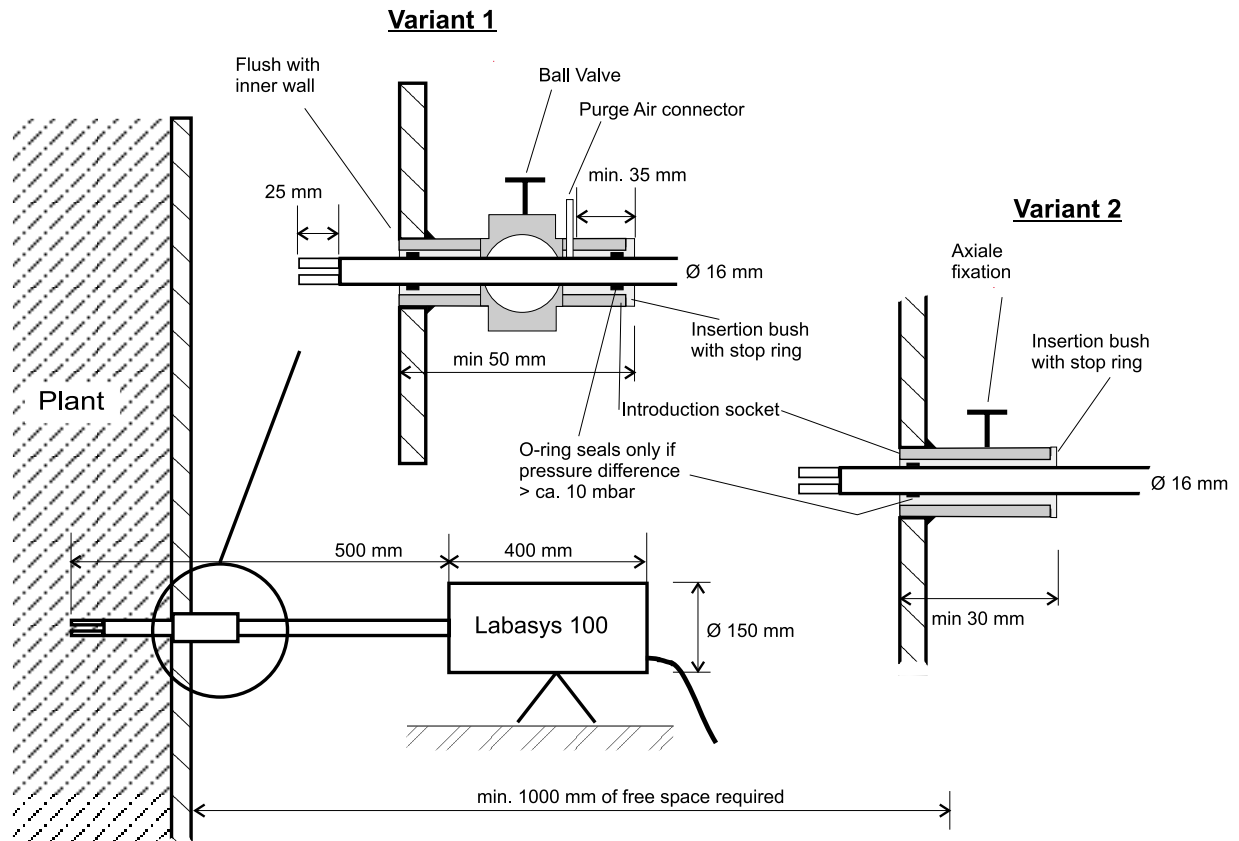

Fig. 1: Principle introduction socket 'Labasys 100 16-500', variants 1 and 2 with and without ball valve.
- Using a ball valve enables the probe introduction into pressurised vessels without operation stop (cf. fig. 1, variant 1): While the valve is closed the probe tip is introduced until the outer O-Ring seals. Then the valve is opened, possibly the drilling purged with a neutral fluid and finally the probe tip introduced completely.
The introduction socket has to support the weight of the probe of approx. 10 kg in extended position reliably and vibration-free. If needed the probe body may be supported by an adjustable device. The **plastic bush** must be designed for the temperatures to be expected (i.e. PTFE) and meet the following measures (cf. fig. 1):
- in case of larger pressure differences (ca. > 10 mbar) O-rings have to be used for sealing (for positioning refer to figure 1)